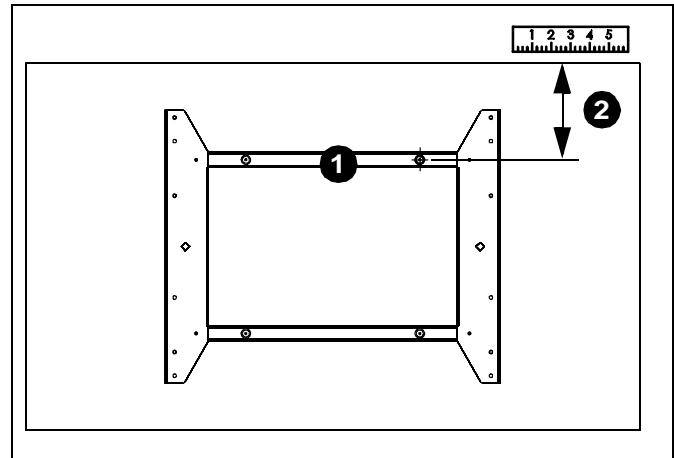

Figure 2
**IMPORTANT ! :** If the dimension taken in figure 2 is greater than 13.5" (342.9mm), the faceplate will need to be adjusted before mounting the display. If the dimension taken in figure 2 is less than 13.5" (342.9mm) proceed to *Cable installation and Routing* below.
Subtract 13.5" from the dimension determined in figure 2. The difference between the two is the total amount of adjustment the faceplate will require.